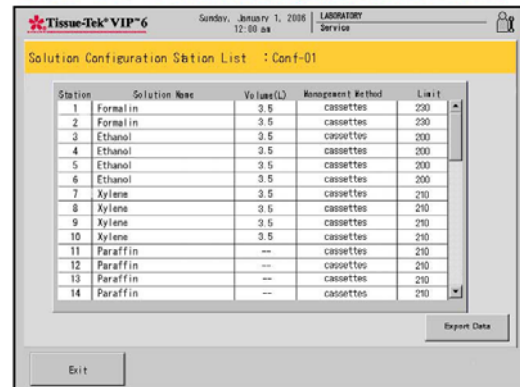

Figure 3-TT
- Touch **Export Data** (Figure 3-TT) to export data (see Exporting System Setup Data-Section 3).